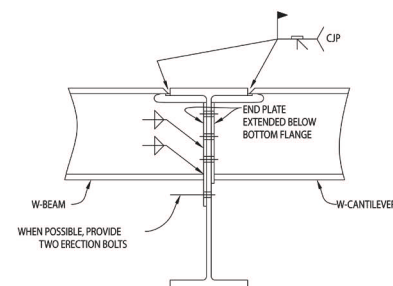

Figure 6. Cantilever Moment Connection at W-Beam when End Moment is not Reversible (Bottom Flange is Always in Compression)
31. At cantilever-to-beam connections, when the bottom flange is always in compression, use an end-plate connection extended below the bottom flange as illustrated in **Figure 6**. In this case, top-flange tensile force will be resisted by a CJP weld or flange plate, and bottom-flange compressive force will be resisted by bearing. Any field connection (CJP weld or flange plate) is eliminated at the bottom flange. The same concept can be applied to: